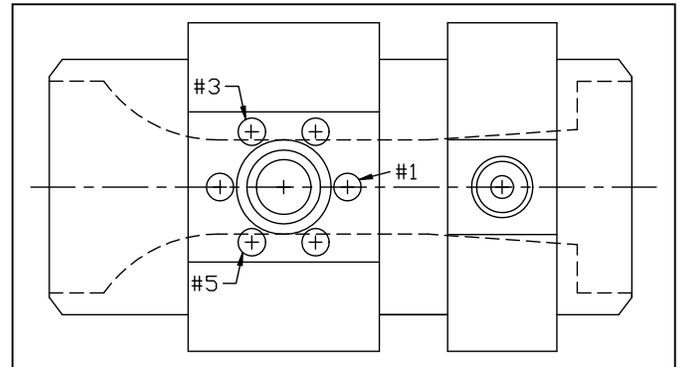

Figure 8. Retaining Stud Locations
- Apply a thread-locking product (e.g. Loctite 262) to the first 0.75-inch of stud. Next, install the stud in the threaded hole closest to the exit of the meter, hole #1 in Figure 8. (The inlet is radiused; the exit is conical). Thread the stud into the hole until hand tight.
- Repeat this process in holes #3 and #5 as in Figure 8.
- Loosen and remove retaining nuts and washers from retaining studs (see Figure 8).